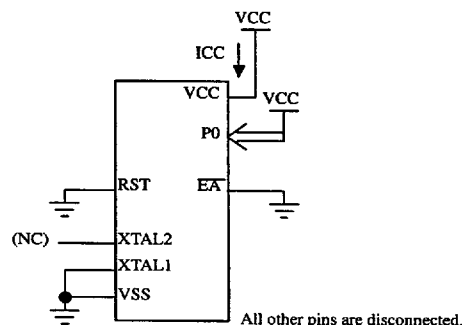

Figure 21. ICC Test Condition, Power Down Mode.
3. Power Down ICC is measured with all output pins disconnected; EA = PORT 0 = V_{CC}; XTAL2 N.C.; RST = V_{SS} (see Figure 21.).